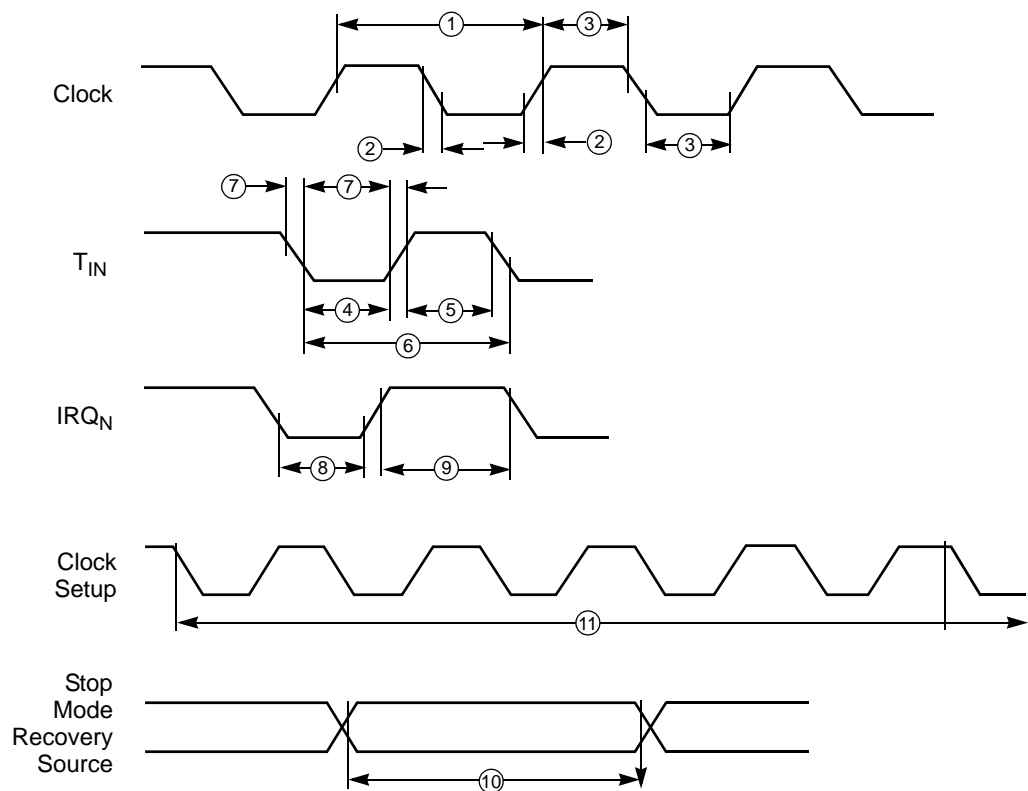

Figure 5. Timing Diagram
Figure 5 shows the timing diagram. Table 6 describes the alternating current (AC) characteristics.